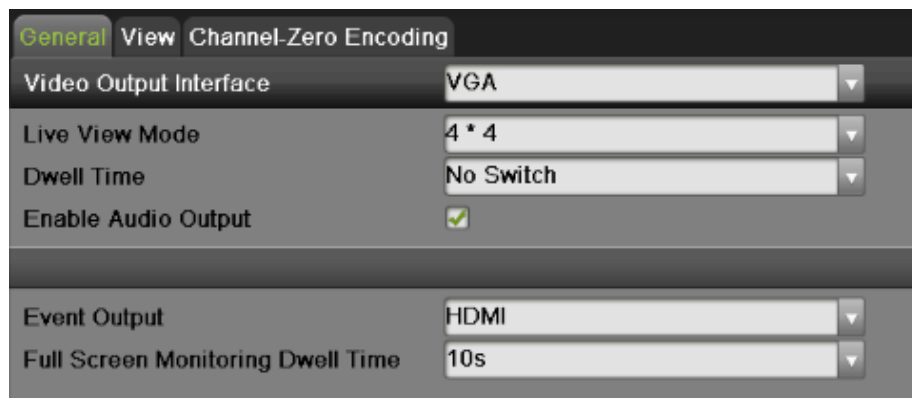

Figure 32 Live View Menu
- Set the live view interface parameters and event output by going to Menu > System Configuration > Live View > General, as shown in Figure 32.